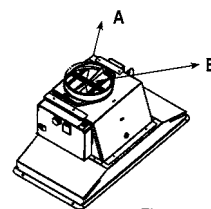

Fig. 1
1. Connect the tube to the outlet flange \varnothing 150mm (fig. 1, A), that should be installed with collar clip (extra accessory), check that the flaps in the outlet tube (counter damper) (fig. 1, B) opens and closes.